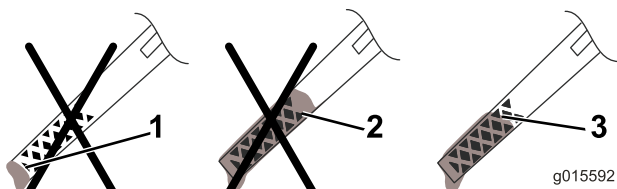

Figure 28
13. Remove the dipstick and read the oil level on the dipstick (Figure 28).